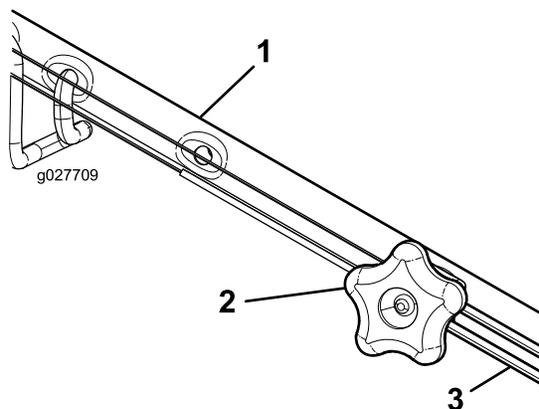

Figure 40
- Turn the adjustment knob counterclockwise to loosen the cable adjustment (Figure 40).
- Adjust the tension on the cable (Figure 40) by pulling it back or pushing it forward and holding that position.